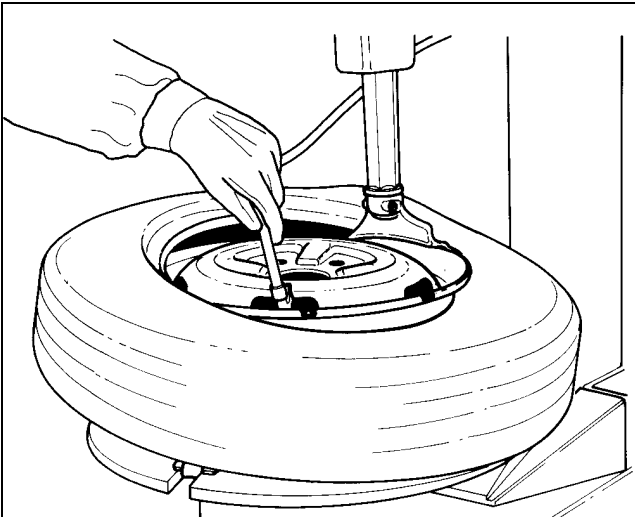

Fig.25
D. Mount the first bead as described in @ 4.2.B. Put the tube inside the tire and hang the valve with the clip of the inflating hose (Fig.25). Mount the top bead following the directions above.